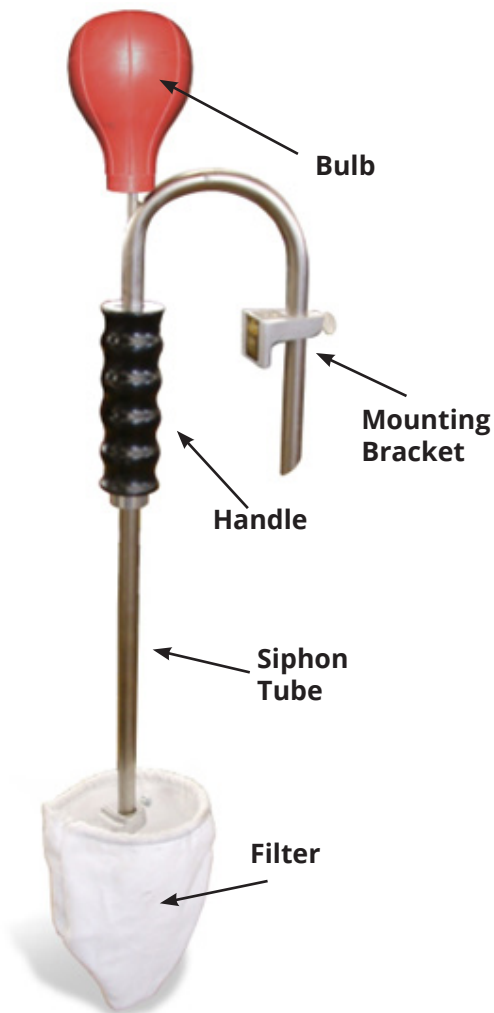

Figure 20
5. Attach the filter assembly to the lower part of the siphon tube, as shown in Figure 20. To do this: